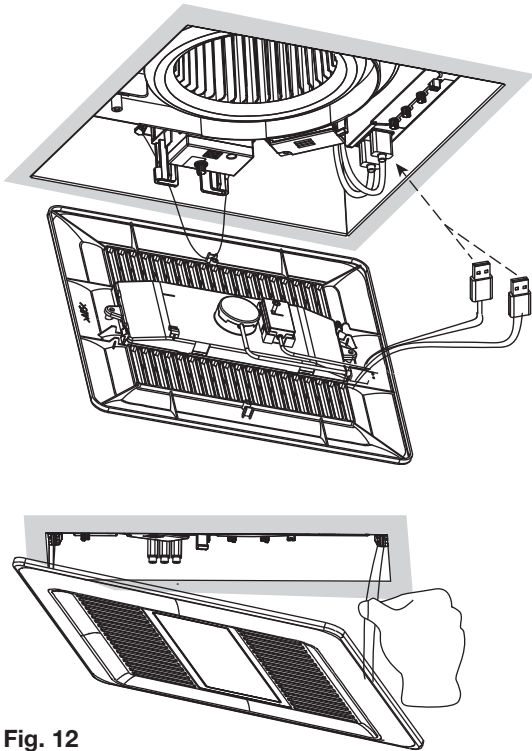

Fig. 12
- Insert the USB connector into the USB receptacle (see page 4 for appropriate USB port configuration) and insert other mounting spring into the slot as shown and mount grille to fan body. Avoid pinching module wires. (Fig. 12)